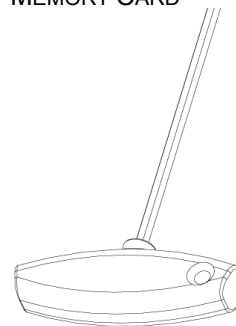

FIGURE 8: 4MM ALLEN WRENCH
- T-Handle Allen Wrench (Figure 8)